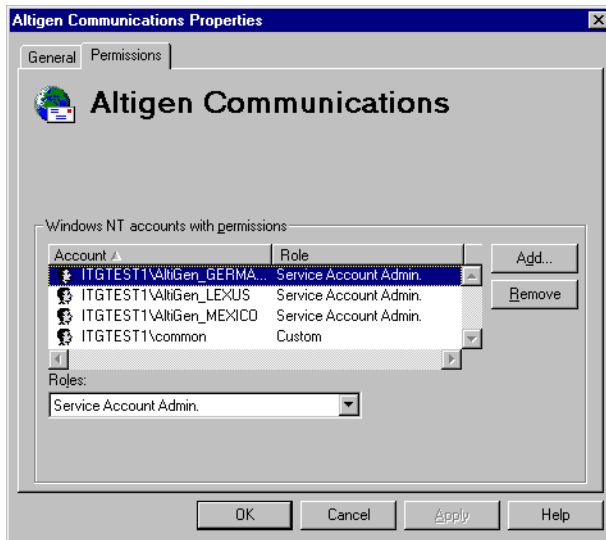

Figure 10. Properties window, Exchange Object
4. Change the accounts role to **Service Account Admin** from the **Roles** combo box (see Figure 10).